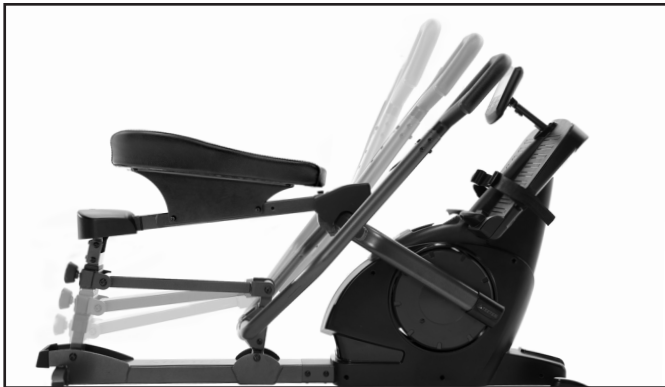

Figure 31
Figure 31: The handles can be adjusted into three (3) settings to control their depth of movement at the finish of the stroke. Once you find your seat setting, you'll want to test the handle setting to fit your body type and amount of layback (lean of the upper body) you desire. The A setting offers the greatest movement; the C setting offers the least.